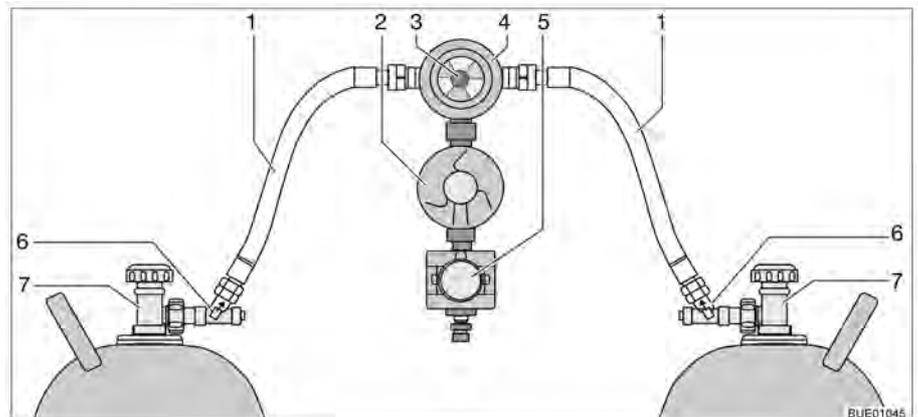

Fig. 127 Crash-Protection-Unit switching facility
The Crash-Protection-Unit consists of two flow restrictors with manual release button (Fig. 127,6) a reversing valve (Fig. 127,4) with pressure regulator (Fig. 127,2), an electrovalve (Fig. 127,5) and the operating unit with tricoloured LED. The reversing valve is installed between the two gas tubes (Fig. 127,1).
Use the knob (Fig. 127,3) on the reversing valve to select which of the gas bottles is to be used as a primary bottle and which is to be used as a reserve bottle.
Only the electrical functions can be switched at the operating unit (Fig. 128). The regulator taps on the gas bottles (Fig. 127,7) and the release buttons (Fig. 127,6) must be opened manually.
- Open the regulator taps of the gas bottles (Fig. 127,7).
- Press the release buttons (Fig. 127,6) successively for 10 seconds.
- Use the knob (Fig. 127,3) on the reversing valve (Fig. 127,4) to select the gas bottle which is to be the primary source of gas (primary bottle). Always turn the knob as far as it will go.
- Close the regulator taps of the gas bottles (Fig. 127,7).